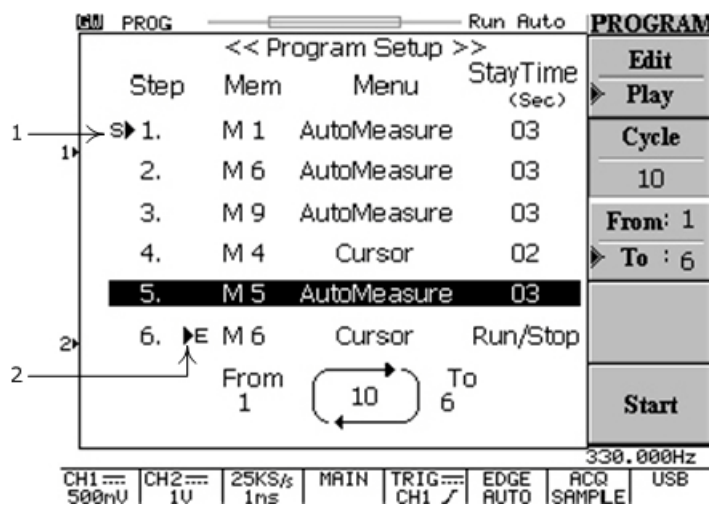

Figure 5-26: Programming for play function of “Program” mode
**CURSOR:** Select the different cursor measurement. Vertical cursors measure time; horizontal cursors measure voltage. For both vertical and horizontal cursors, the cursor readout T1 and T2 (V1 and V2) show the selected cursor relative to the center horizontal (or vertical) LCD graticule; the readout  $\Delta$  symbol indicates the distance (time or voltage) between of two cursors (see Figure 5-26).